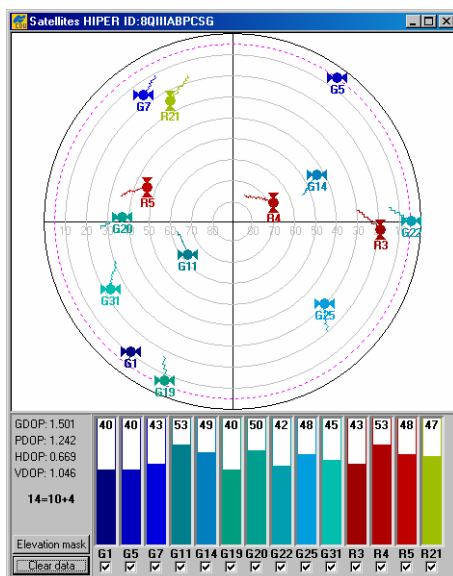

Figure 3-48. Satellites <Receiver ID>
- Dotted circle: the position/angle of the elevation mask. See “Elevation Mask Form” on page 3-92 for more information. (In Figure 3-48, the elevation mask is set to 5 degrees.)
- Number of satellites in view: the total number of satellites in view, including the number of GPS and GLONASS satellites. (In Figure 3-48, 10 GPS satellites are in view and 4 GLONASS satellites are in view for a total of 14 satellites.)